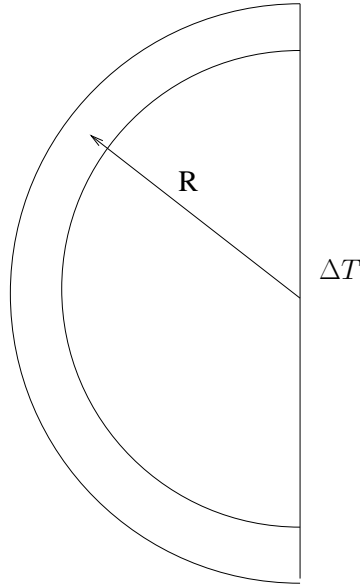

Figure 3: Problem 3.
3. A thin wire of cross sectional area A_0 is tied to the two ends of a semicircular beam of radius R along its diameter as shown in Fig. 3. Note that the *initial* shape (i.e., before the application of any load) of the beam is semicircular. The cross sectional area of this semicircular beam is A . There is no tension (35)